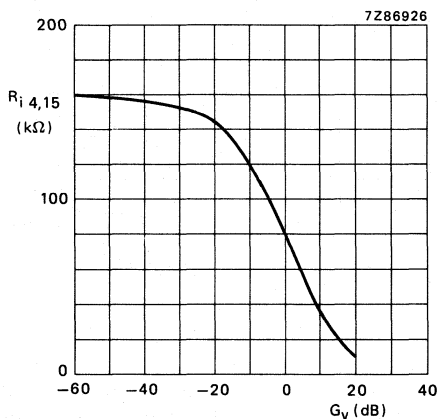

Fig. 4 Input resistance (R_i) as a function of gain of volume control (G_v). Measured in Fig. 1.
- Equation for input resistance (see also Fig. 4)
| Maximum gain of volume | see Fig. 4 | $G_{V\text{ max}}$ | 20.5 | 21.5 | 23 | dB |